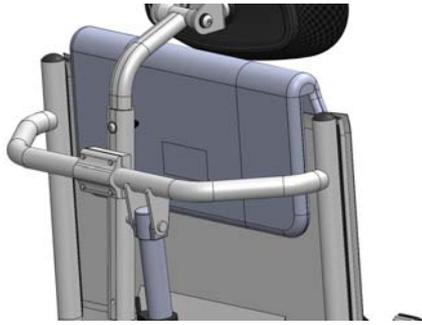

Figure 5-107
5.3.8.2.1 Use the #4 Allen Key wrench to loose the screw below the headrest. The Adjust the headrest to the desired position. (Figure 5-107, Figure 5-108, Figure 5-109)
5.3.8.2.2 Use the #4 Allen Key Wrench to loosen the screw below the headrest. There are four evenly spaced holes for incremental adjustments. The total range of adjustment is 50 mm. (Figure 5-111). Adjust the headrest to the desired position. (Figure 5-107, Figure 5-108, Figure 5-109, Figure 5-110 )